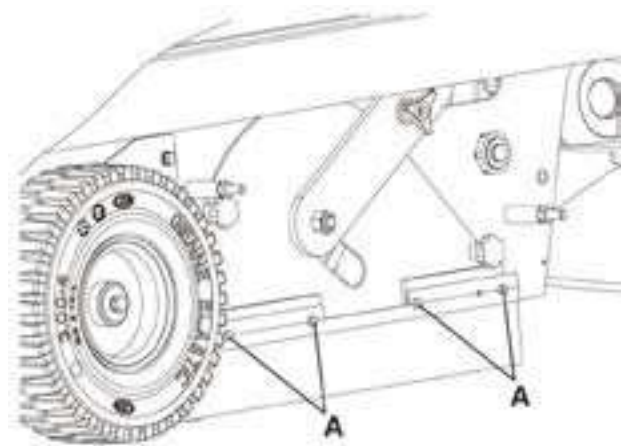

Figure16
- 3) Check that distance from the ground of the side skirts (11 and 12) is within 0 – 0.12 in (0 – 3 mm) (A, fig. 13). If necessary, adjust the skirt height by using the slots on the screws (A, fig. 16).